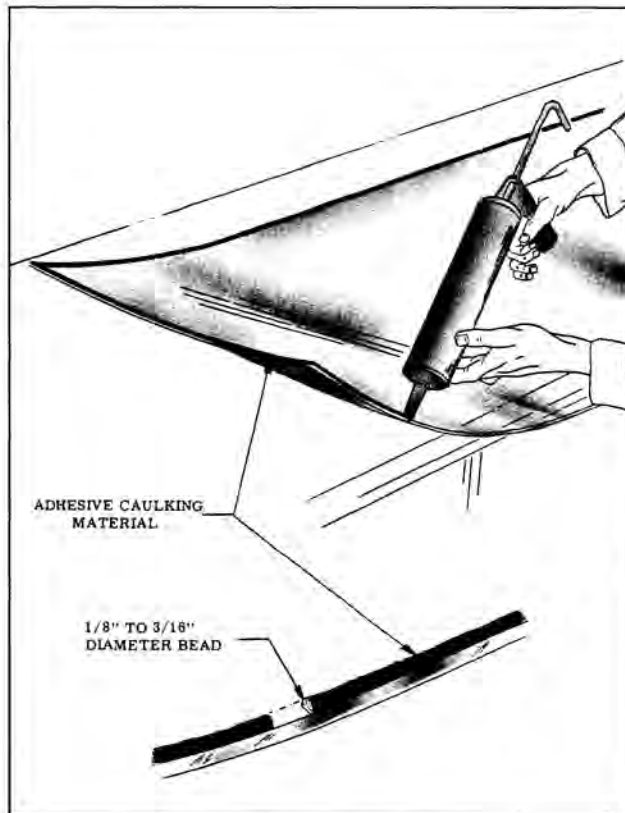

Fig. 16-310 Caulking Application (Short Method)
11. Apply a smooth continuous bead of adhesive caulking material to inside surface of glass next to edge completely around glass. (Fig. 16-310) Material should be 1/8" to 3/16" in diameter.